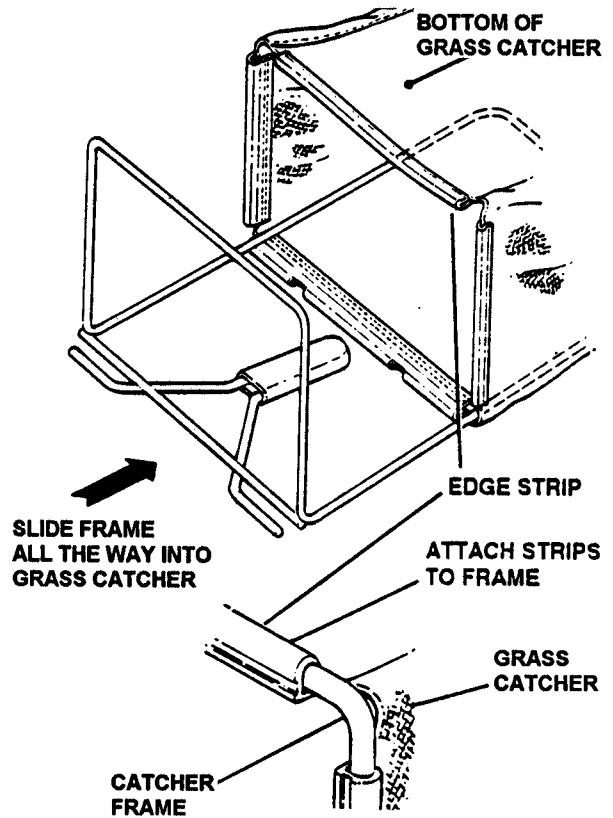

FIGURE 2
STEP 4: With grass catcher and catcher frame assembly upside down (plastic bottom turned up), insert bag frame assembly into catcher as shown in Figure 2. Fasten "C" shaped plastic edge strip located on front of bag around frame assembly on all four sides. Make sure edge strip is fastened securely.